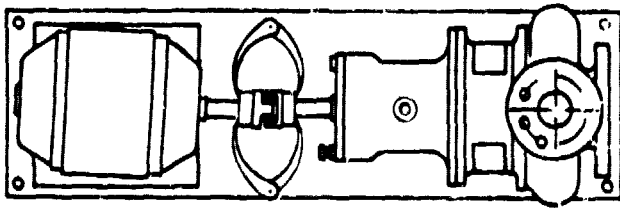

Figure 3
2. To check the parallel alignment of "spider-insert" couplings, place a straight edge across both hubs at four points, 90° apart (see Fig. 3). To check the parallel alignment of flexible spacer couplings, place a dial indicator on one hub and rotate that hub 360° while taking readings on the outside diameter of the other hub. Alignment occurs when indicator deflection does not exceed .002" T.I.R. (see Fig. 4) of the recommended cold setting in elevation and not more than .002" T.I.R. side to side.